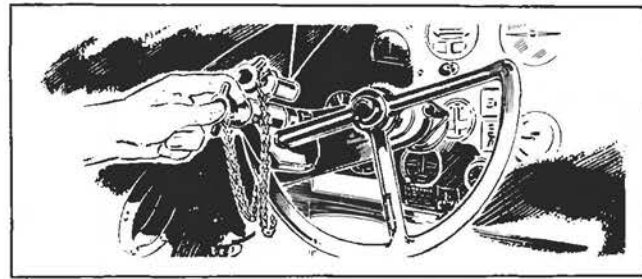

Figure 63—Locking Ailerons
*a.* LOCKING AILERONS.—Rotate the pilot's control wheel 20 degrees counterclockwise, place the yoke lock over the left-hand spoke, and press it firmly into the base plate. Remove the elevator key after turning it 90 degrees in the key hole of the yoke lock. (See figure 63.)